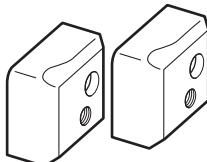

Fig. 25
- (1) Cutter (Fig. 25)(Code No. 319706)